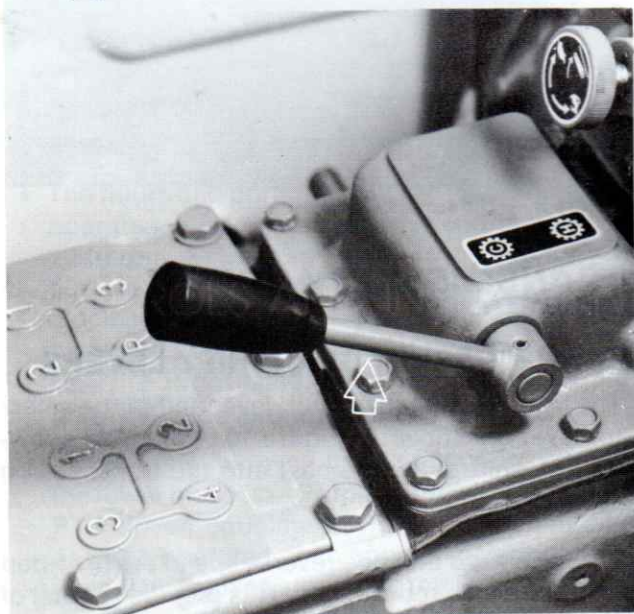

Figure 11— Creeper Range Control
A creeper range option with a 7.78:1 ratio is available which provides an additional 12 forward and 4 reverse speeds or a total of 24 forward and 8 reverse speeds. The control is located on the top, left front of the rear-axle center housing, Figure 11. Full downward movement of the lever engages (ON) the creeper range. Full upward movement disengages (OFF) the creeper range.